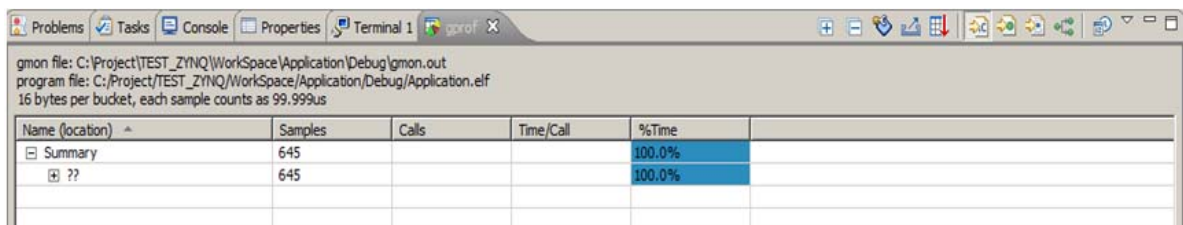

Figure 7-5: Viewing the gmon.out File
11. Click **OK** to open the profiling results (gmon.out) in a gprof tab in the right window area. It will look similar to Figure 7-5